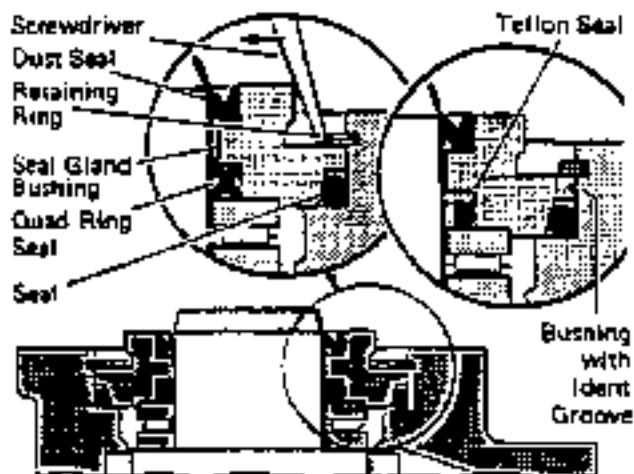

Figure 19
14. Install 1 1/4" diameter dust seal in seal gland bushing, flat or smooth side of dust seal must face down towards bushing, see Fig. 19.
15. Install the quad ring seal in seal gland bushing. Smooth seal in place with your finger. Do not use any seal that falls freely into Parker of bushing, see Fig. 19.